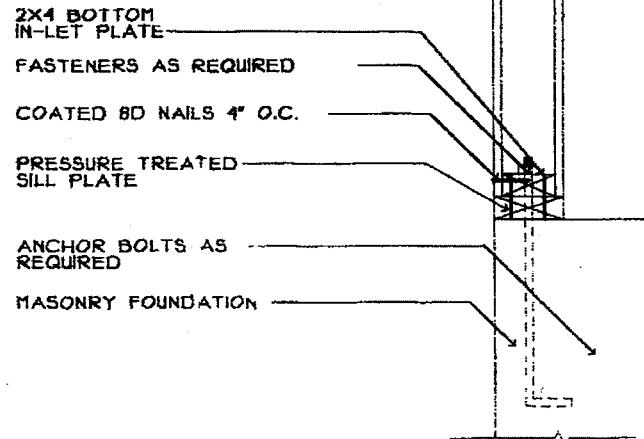

FIGURE 4\*—BOTTOM IN-LET PLATE
- A bottom in-let plate, as shown in Figure 4 of this report, shall be provided along the bottom edge of all Murus wall panels. The bottom in-let plate shall consist of 2-inch by 4-inch dimension lumber. The foam core of the panel shall be routed to completely embed the in-let plate in the panel, so that the OSB faces of the panel will bear completely on the surface which supports the Murus Panels. The in-let plate is to be fastened securely to the supporting structure as required by the approved construction documents. The void in the Murus Panel is sprayed with foam, as described above, prior to placing the panel over the in-let plate. The Murus Panel is then secured to the in-let plate on both faces with 8d nails at 4 inches on center. The fasteners on the OSB faces shall be staggered from each other.